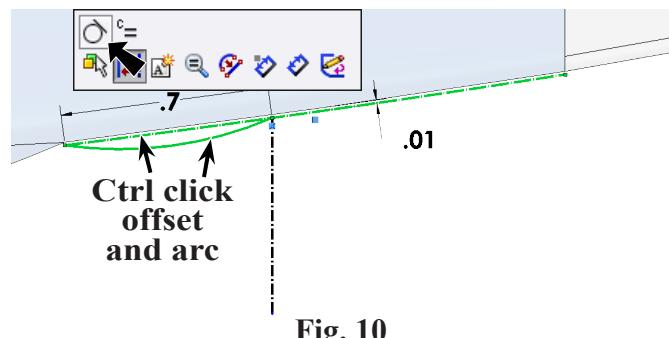

Fig. 10
Step 14. **Ctrl click arc and offset spline** to select both. Release Ctrl key and click **Make Tangent**  on the Context toolbar, **Fig. 10**.